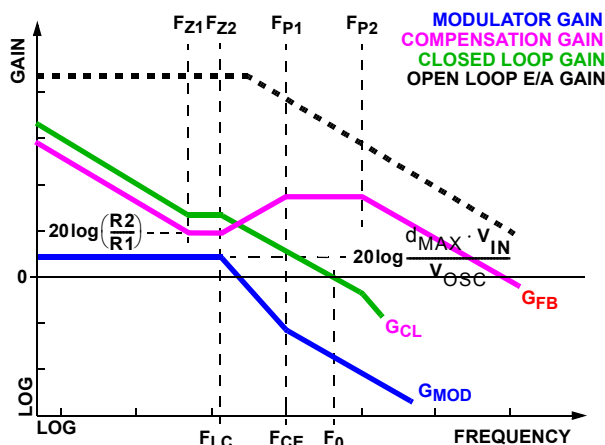

FIGURE 17. ASYMPTOTIC BODE PLOT OF CONVERTER GAIN
Figure 17 shows an asymptotic plot of the DC-DC converter's gain vs. frequency. The actual Modulator Gain has a high gain peak dependent on the quality factor (Q) of the output filter, which is not shown. Using the above guidelines should yield a compensation gain similar to the curve plotted. The open loop error amplifier gain bounds the compensation gain. Check the compensation gain at F_{P2} against the capabilities of the error amplifier. The closed loop gain, G_{CL} , is constructed on the log-log graph of Figure 17 by adding the modulator gain, G_{MOD} (in dB), to the feedback compensation gain, G_{FB} (in dB). This is equivalent to multiplying the modulator transfer function and the compensation transfer function and then plotting the resulting gain.